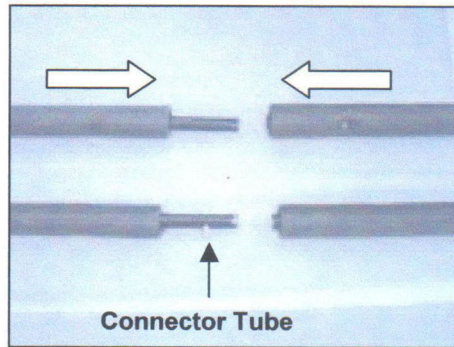

Figure 9
9. Locate (2) Connection Tubes (**S**), Left and Right Bow Assembly (**Q**) and lay them on a flat clean surface and identify the Front and the Rear Bow. **NOTE:** The Front Bow has one pin on each side.
10. Assemble the two halves of the Bow Assembly using the included Connection Tubes with push buttons (Figure 9) **NOTE:** It may be helpful to use a screw flat driver to push down the buttons while sliding Bow halves together. Also, it may helpful for two persons to slide both sides of the Bow Assembly forward simultaneously.